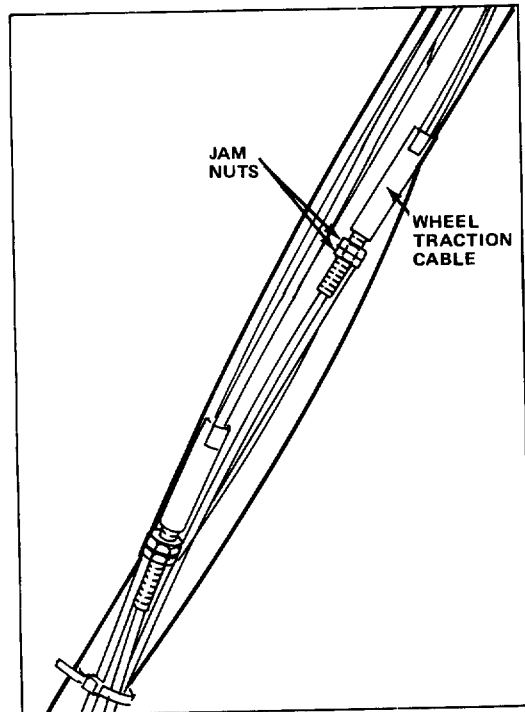

Figure 18
2. Loosen bottom jam nut on wheel traction cable (Fig. 18).